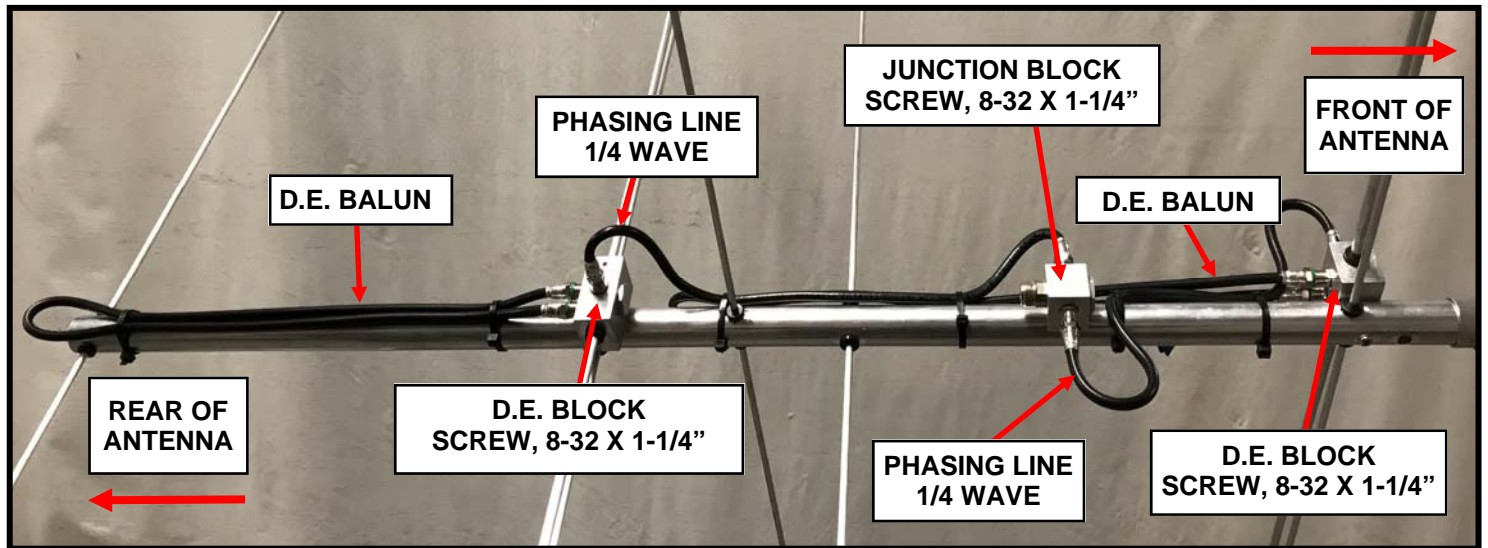

FIG 2.
6. Mount the **HORIZONTAL DRIVEN ELEMENT BLOCK / ROD ASSEMBLY** to the **TOP** of the boom using a single 8-32 X 1-1/4" screw. See FIG 2. for reference. Install the 8-32 x 1/4" set screws (internal Allen head - tool supplied) into the SHORTING BARS. Slide the bars onto the Driven Element Block Rods and the driven element rods. Position the Shorting Bars at the ends of the 3/16" rod that passes through the boom. Align the bars with each other and tighten the set screws.
7. Mount the "T" JUNCTION BLOCK on the top of the boom. See FIG 2. for hole location. Secure with a 8-32 X 1-1/4" screw.
10. Attach Baluns and Phasing lines to the Driven Element Blocks and Junction Block as shown on FIG. 2. Tighten the connectors **gently** using a 7/16" end wrench. A lot of torque is unnecessary. Depending on model and polarity, the Vertical balun may loop around another element. This is normal. Form balun and phasing line coax close to the boom and secure with nylon cable ties. Ties should be snug but not crushing or kinking the coax.